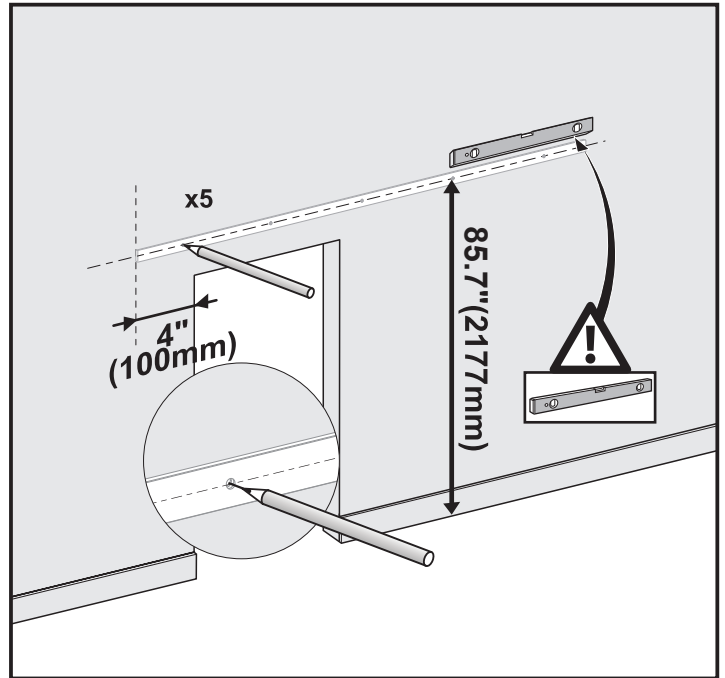

Fig 1
1. This step requires a second person. Measure the center of **Track [03]** from the floor as figure shows. Measure one end of **Track [03]** from the edge of opening as figure shows. (Fig 1)